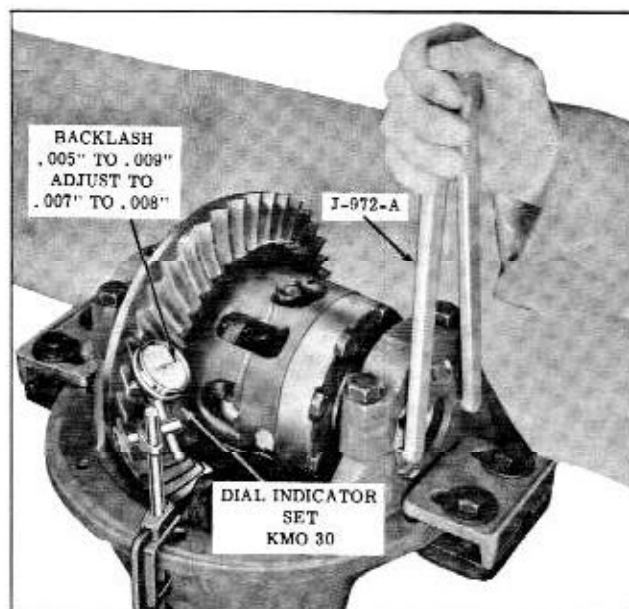

Fig. 6-37 Adjusting Backlash (Anti-Spin Shown)
5. Clamp dial indicator to differential carrier and check backlash between ring gear and drive pinion, using Dial Indicator Set KMO-30. (Fig. 6-37) If the same ring gear and pinion were installed, the backlash should be adjusted according to markings on the bearing caps and adjusting nuts providing the differential was not disassembled to correct a noise complaint.